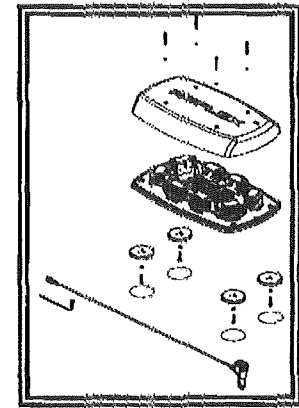

Figure 5
3. Place an internal star washer onto the enclosed M5 x 20 hex bolt and insert the hex bolt through the hole in the cup magnet as shown. Hold the magnet/bell assembly with the bolt extended through the magnet as far as possible and feed the hex nut and the shank of the bolt through one of the openings at the 4 corners of the underside of the minibar base. Maintain tension on the bolt/nut by holding onto the cup magnet while tightening the assembly. Repeat this process for all four corners. See Figure 5.